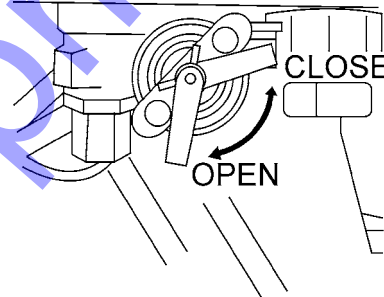

Figure 13. Fuel Cock Open Position)
1. Place the fuel cock (Figure 13) in the open position.
1. Place the fuel cock in the **OPEN** position (Figure 13).